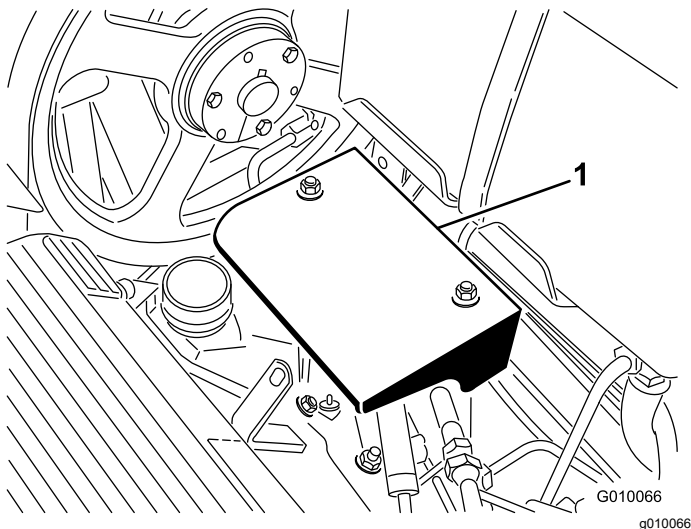

Figure 58
3. Remove the 2 pump shield mounting nuts and remove the shield (Figure 58).